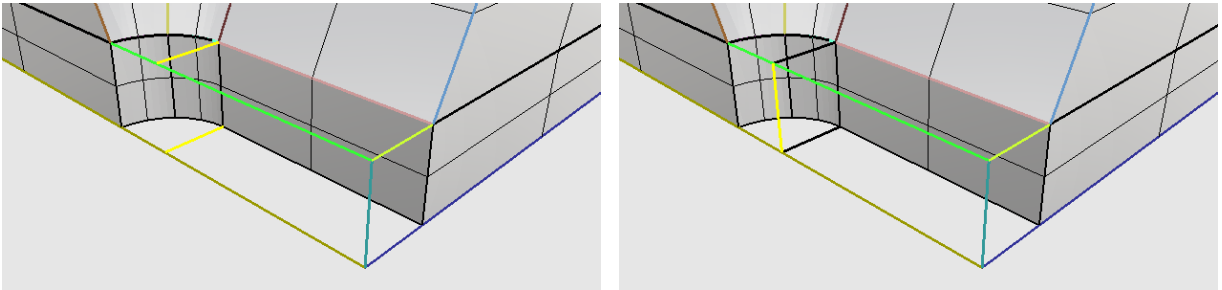

Figure 78: Building additional construction lines
3. Use **Curve|Line|Single Line** to build the two highlighted horizontal line segments shown in Figure 78, left. Use **Curve|Line|Single Line** to build a vertical line segment joining the two T-junctions (Figure 78, right).